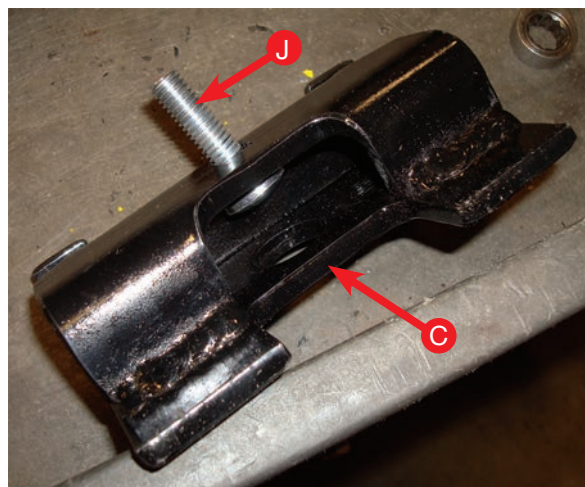

fig. 9
2. Insert the 3/8"-16 X 1.5" carriage bolts (J) through both upper brackets (C) as shown (Fig. 9).